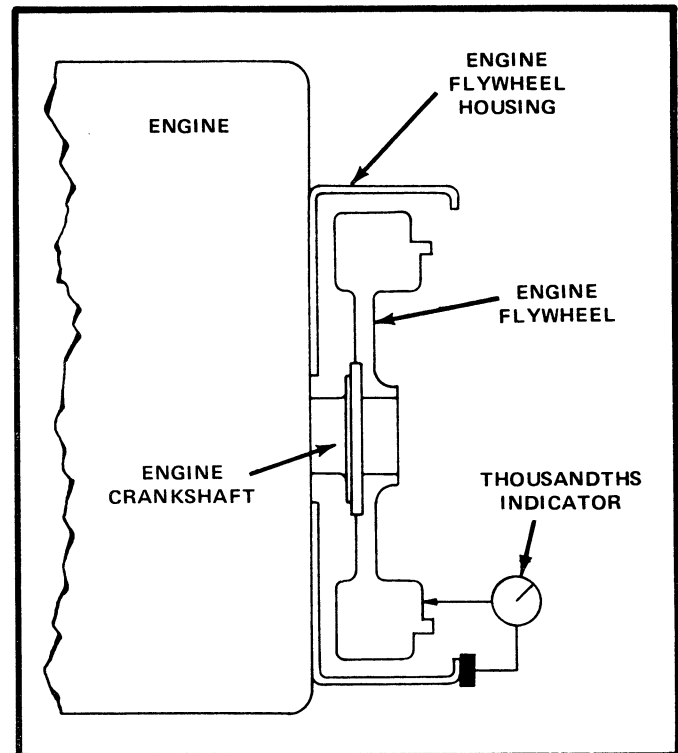

Figure 9-20. Checking the Driving Ring Surface of the Engine Flywheel.
5. Bolt a thousandths dial indicator or gauge to the engine flywheel housing so that the indicator is perpendicular to the engine flywheel, and the indicator stem is riding on the inner face of the flywheel. See Figure 9-20. Rotate the flywheel. The variation of the face runout of the surface to which the driving ring is bolted should not exceed 0.0005 per inch of diameter.